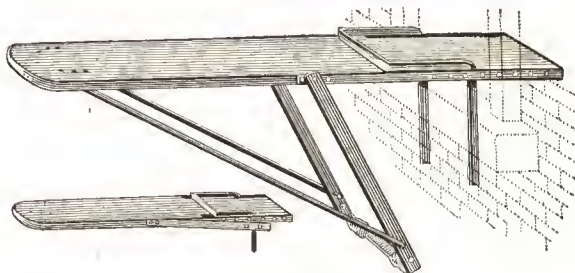

FIG. 37
**Window Bracket:** Figure 37. An extension plank which fastens to a window sill from the inside. Used where there are many upper-story window sash and easings to be painted outside on brick buildings. A faster way to work than with swing stage on windows too high to reach with a ladder.